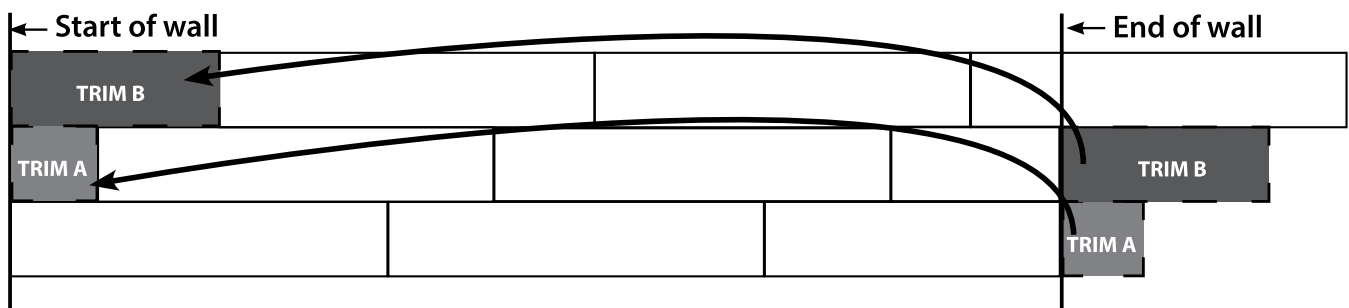

FIGURE 24
- At the termination of the first course, trim the panel to fit the wall (**FIG 24**).